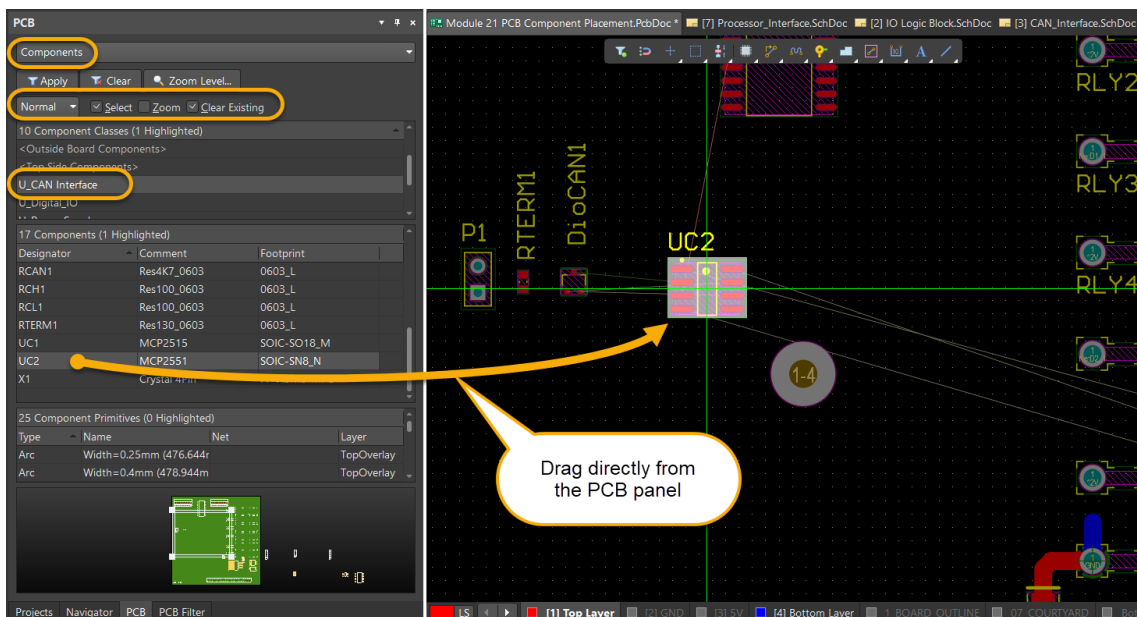

Figure 17. Placing components from the PCB Panel
- b) Refer to Figure 17 and the following instructions for the placement of components from the *PCB* panel: